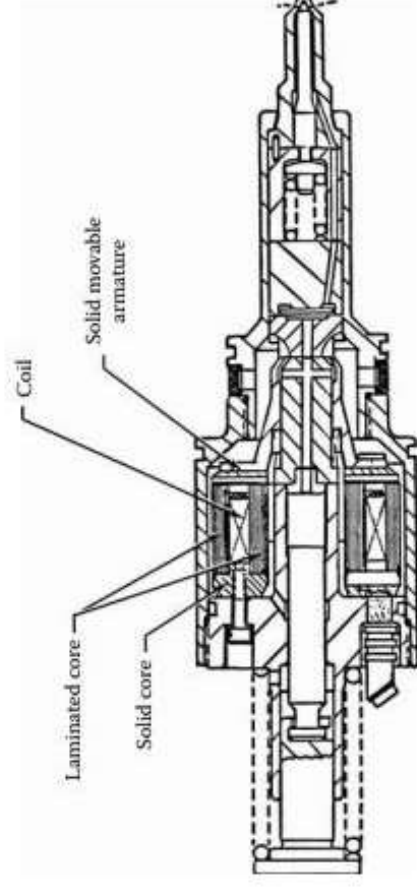

FIGURE 3.51
- Figure 3.51 shows a cross section of a diesel electronic injector. The actuator consists of a coil, an armature, and a magnetic circuit.